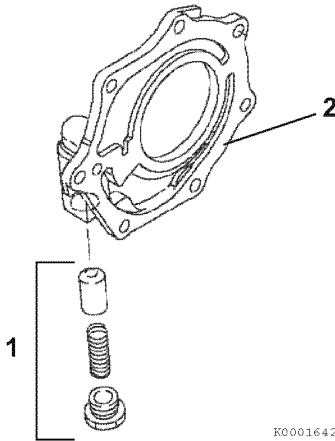

Figure 9-7
- Remove the oil pressure regulator valve (1, **Figure 9-7**) from the oil pump cover (2, **Figure 9-7**).